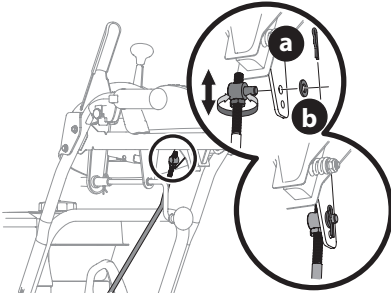

Figure 49
2. Remove hairpin clip (a) and washer (b) from adjustment ferrule on shift rod and pull it out from shift lever (Figure 49).